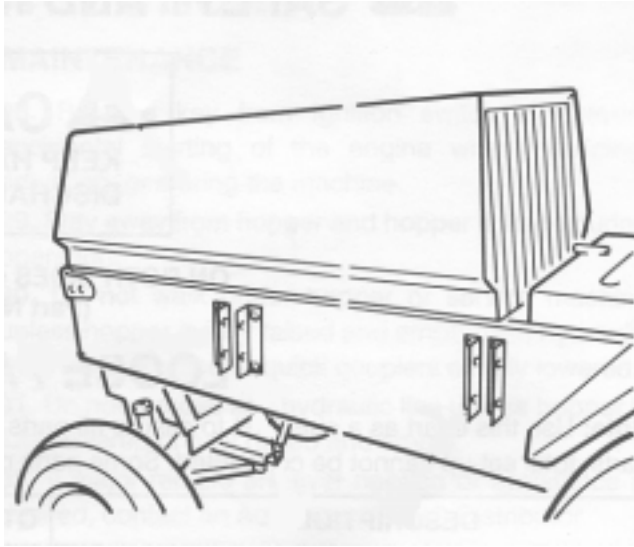

Figure 1
1. Position brackets over existing mounting holes as shown in figure 1. Mount brackets using (1) 3/8–16 x 2" lg. capscrow, (7) 3/8–16 x 1–1/4" lg. capscrows, (8) 3/8 washers, (6) locknuts and (2) lockwashers.